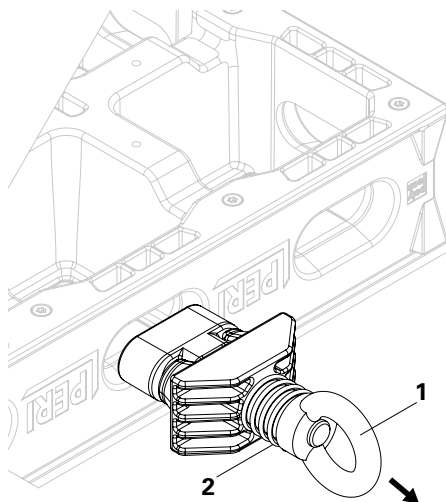

Fig. 11
1. Disassemble the Crane Eye DUO (1) on the horizontal element. (Fig. 10/ Fig. 11)
2. Pull Crane Eye DUO (1) out of the slotted hole of the panel. (Fig. 11)